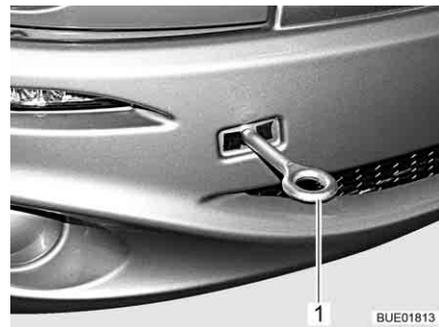

Fig. 49 Towing eye, mounted
- Mount the towing eye (Fig. 49,1) in accordance with the instructions in the operating manual of the base vehicle.